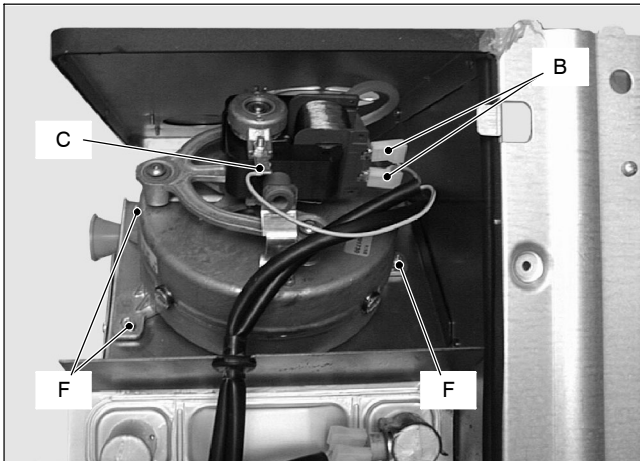

Fig. 1
- 2 Disconnect the connectors B (Fig. 1) and measure the electrical resistance of the motor that has to be about: